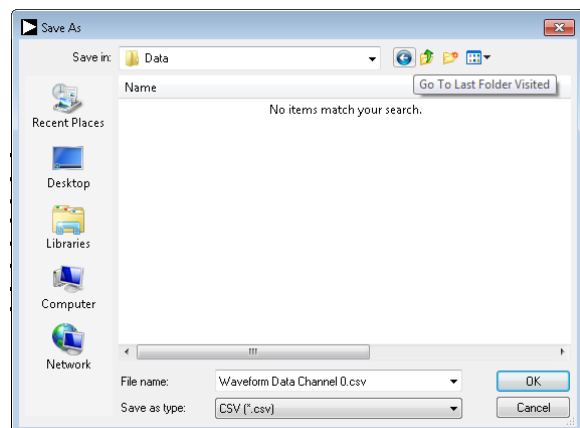
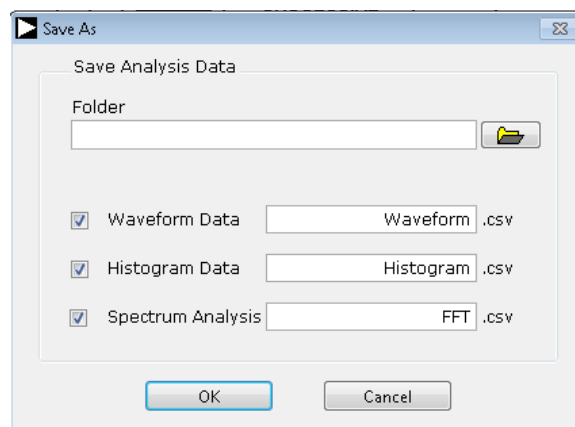

Figure 20. Save File Dialog Box
Figure 21. Save All Dialog Box
- The **Save All Analysis Data** option produces a pop-up box that allows the user to save all of the analysis types to a specific folder location. For the individual saves, the save dialog box in Figure 20 opens. Save to an appropriate folder location. For the save all option, the dialog box in Figure 21 opens.